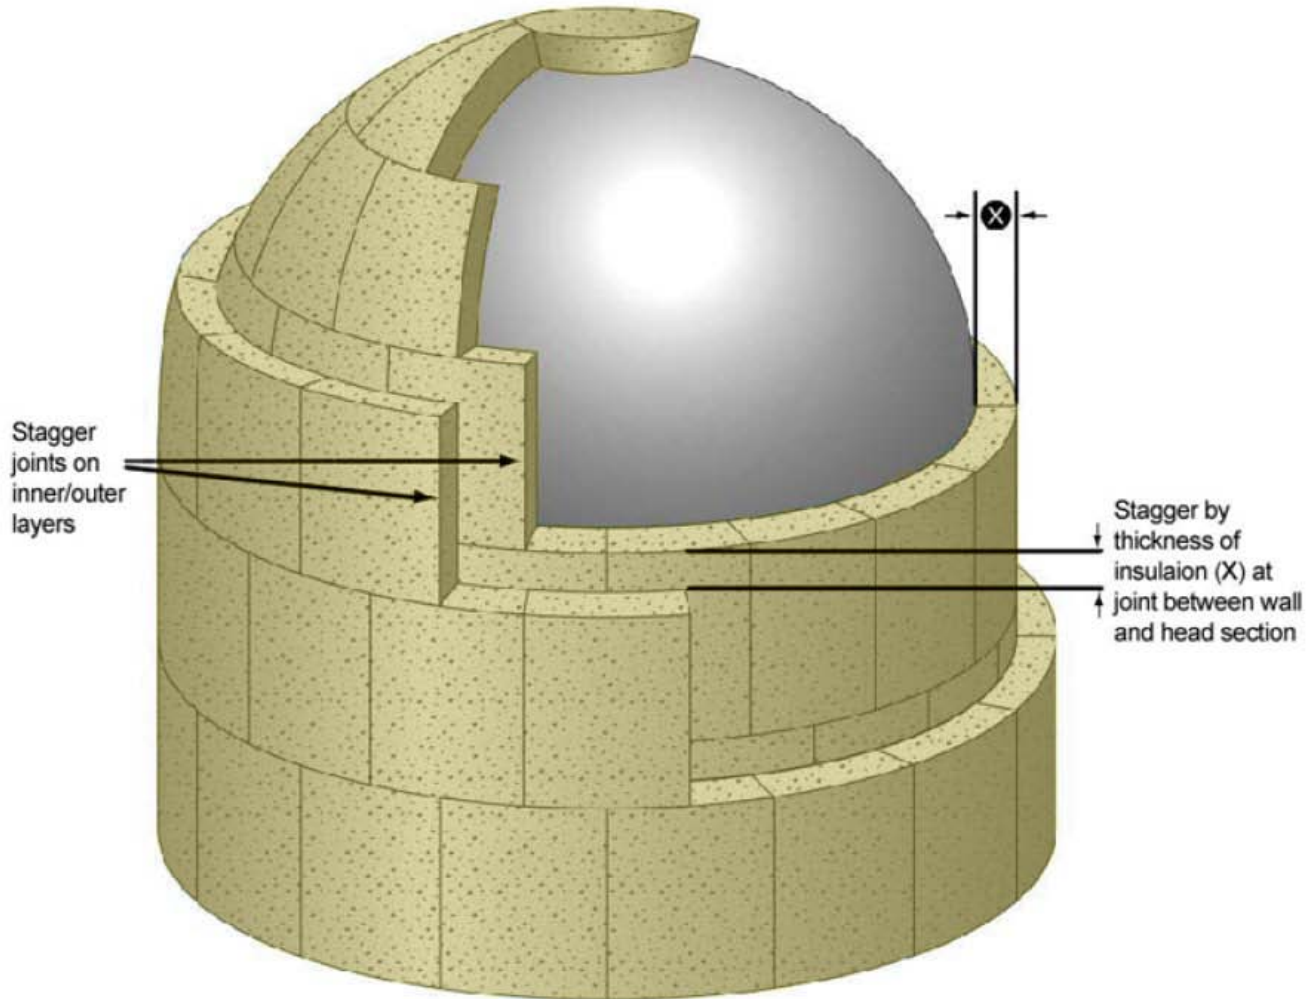

Figure 5
- 4.5.3 Prefabricated flat head sections shall be installed at the same thickness as the vessel walls. Void area behind the flat head shall be filled with spray applied polyurethane foam. Curved segments shall be fabricated to fit the contour of the surface in equal size pieces to go around the vessel with a minimum number of through joints. Cutting in the field shall be minimized. All sections shall be tightly butted and free of voids and gaps. Refer to Figure 5 in Appendix B.